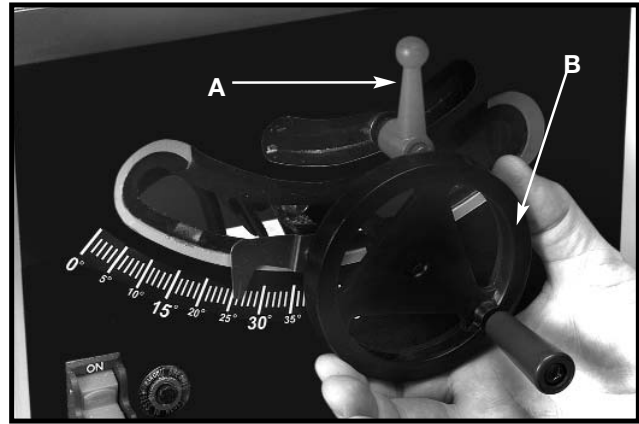
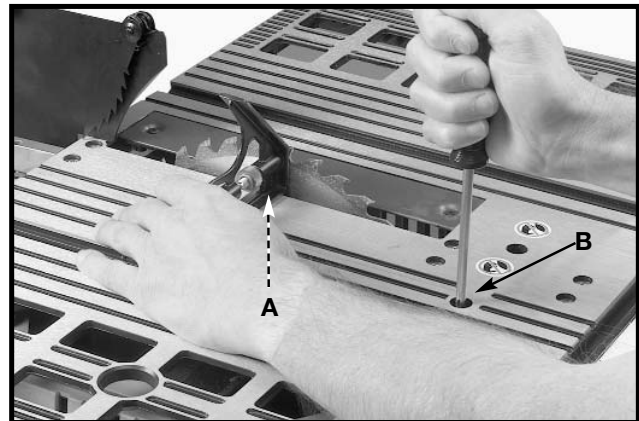
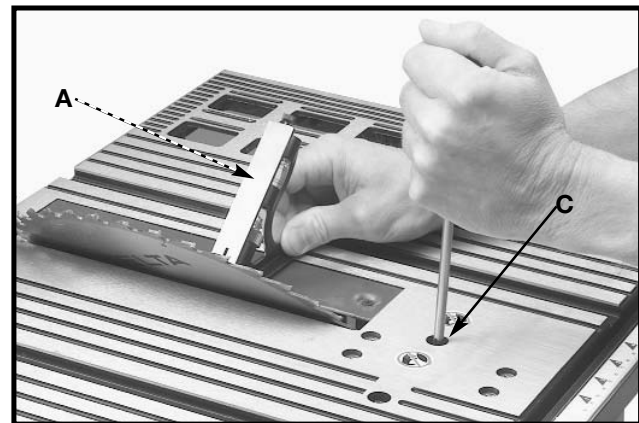

Fig. 30
Fig. 31
Fig. 32
To tilt the saw blade, loosen the lock handle (A) Fig. 30 and move the handwheel (B) until the blade is at the desired angle. Tighten the lock handle (A).
**NOTE:** The lock handle (A) is spring-loaded. Pull out on the handle (A) and reposition it on the serrated stud located underneath the handle.
**⚠ WARNING** THE BLADE TILTING LOCK HANDLE (A) MUST BE LOCKED DURING ALL CUTTING OPERATIONS.
2. Loosen the blade tilting lock handle (A) Fig. 30, move the blade tilting mechanism (B) as far as possible to the left, and tighten the blade tilting lock handle (A).
3. Place a square (A) Fig. 31 on the table with one end of the square against the blade, and check to see if the blade is 90 degrees to the table. If not, loosen the screw (B) Fig. 31 a few turns and move the blade tilting mechanism until the blade is 90 degrees to the table. Tighten the blade tilting lock handle (A) Fig. 30, and tighten the screw (B) Fig. 31 until it stops.
2. Loosen the blade tilting lock handle (A) Fig. 31, move the blade tilting mechanism (B) as far as possible to the right, and tighten the blade tilting lock handle (A).
3. Place a square (A) Fig. 32 on the table with one end of the square against the blade, and see if the blade is 45 degrees to the table. If not, loosen the screw (C) Fig. 32 a few turns and move the blade tilting mechanism (B) Fig. 30, until the blade is 45 degrees to the table. Tighten the blade tilting lock handle (A) Fig. 30, and tighten the screw (C) Fig. 32 until it stops.